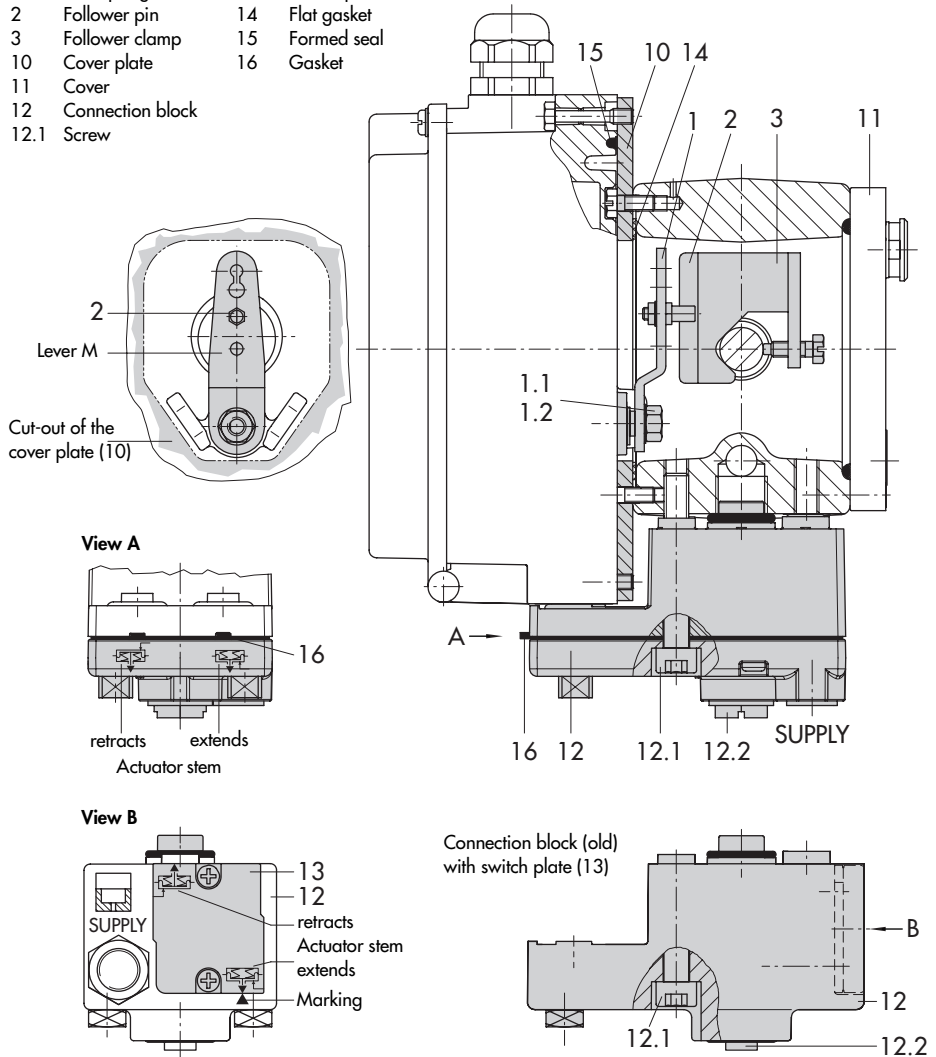

Fig. 4 · Direct attachment – Signal pressure connection for Type 3277 Actuator with 240, 350 and 700 cm2
1. Place follower clamp (3) on the actuator stem, align and screw tight so that the mounting screw is located in the groove of the actuator stem.
2. Mount cover plate (10) with narrow side of the cut-out opening (Fig. 4, left) pointing towards the signal pressure connection. Make sure that the bonded gasket (14) points towards the actuator yoke.
3. For actuators with 700 cm2, remove the follower pin (2) at lever **M** (1) on the back of the positioner from pin position **35**, reposition it in the bore for pin position **50** and screw tight.
In versions with the **old** connection block, (Fig. 4, bottom), the switch plate (13) must be turned to align the corresponding actuator symbol with the arrow.
7. Place the connection block (12) with the associated seal rings against the positioner and the actuator yoke. Screw it tight using the fixing screw (12.1).